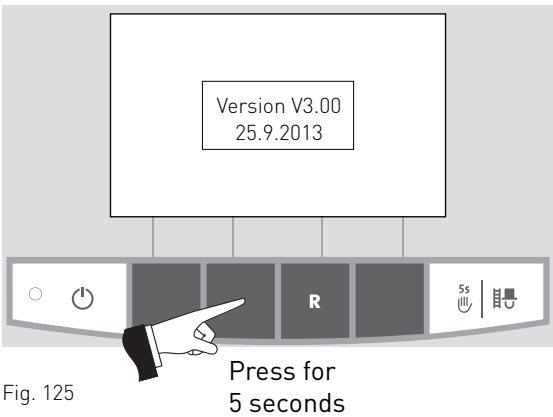

Fig. 125
- if the „R“ button is pressed for 5 seconds on a standard display – Fig. 125;